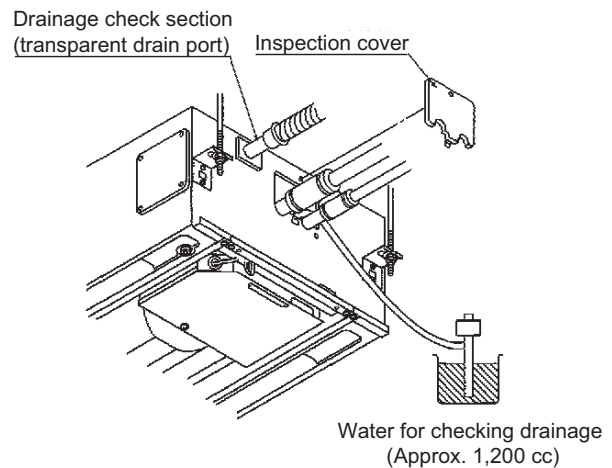

Fig. 2-154
- (4) When the check of drainage is complete, open the check pin (CHK) and remount the tube cover. (Fig. 2-154)
**To mount the tube cover, use 4 × 8 tapping screws.(Fig. 2-154) Do not use long screws as they may puncture the drain pan and cause water leakage.**